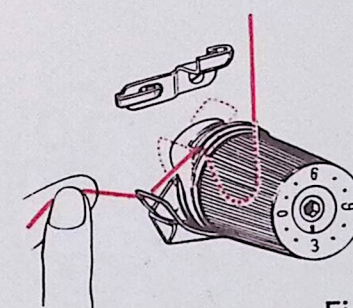
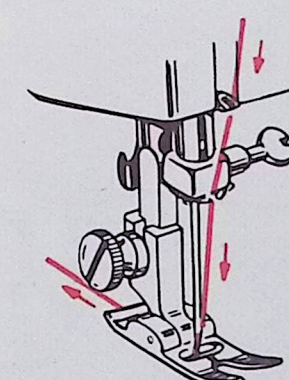

Fig. 2
Fig. 3
can be slipped into the hook (See Fig. 1). When the thread is released, the spring wire loop will return to position (See Fig. 2) with thread in proper place. Release spool of thread and continue to thread machine exactly as shown. Needle must always be threaded in direction as shown in Fig. 3.
2. Wind thread around an empty bobbin several times as in Fig. 2.